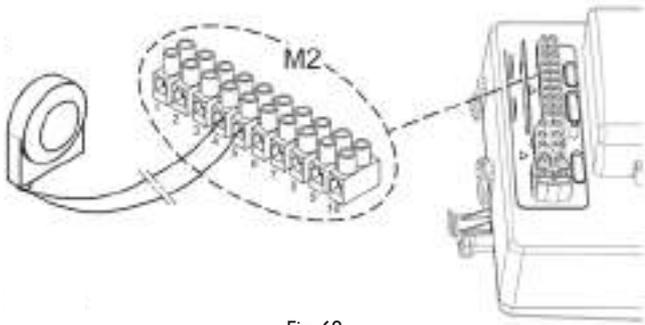

Fig. 68
14. Connect the wires from the Outdoor Sensor to the installer side of M2 terminals 4 and 5 (Fig. 68).